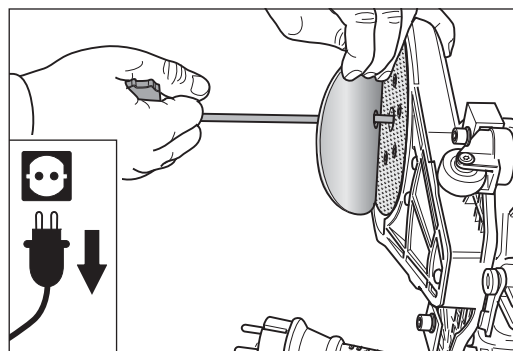

Fig. 11 Mount the new Velcro sanding disc in a centred position and press down.
- 5 Place a new Velcro sanding disc on the sanding plate. The Velcro sanding disc must be positioned in the centre of the sanding plate. The hole in the centre of the sanding disc and the universal spanner make this step easier (Fig. 11).